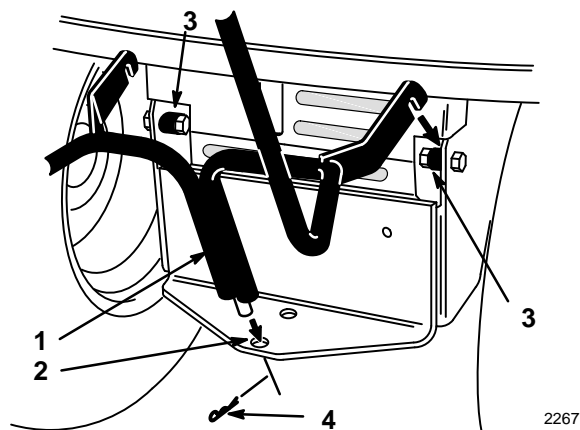

Figure 30
4. Remove the hairpin cotter and slide the bottom of the quick-attach bracket up out of the hole in the hitch and unhook from the spacers located inside the tractor frame (Fig. 30).